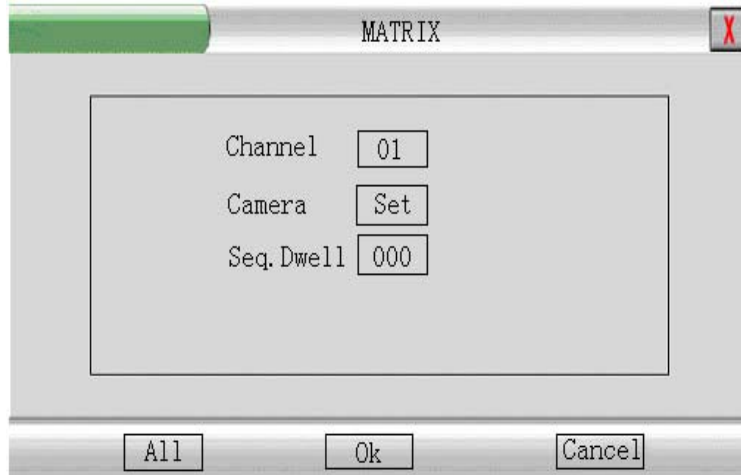

Figure 27 VIDEO MATRIX
2. Click "OK", enter into Matrix Setting Menu, user can choose the different Option by "Up" and "Down", and configure each Option by "Left" and "Right". Just as Figure 27 shows: